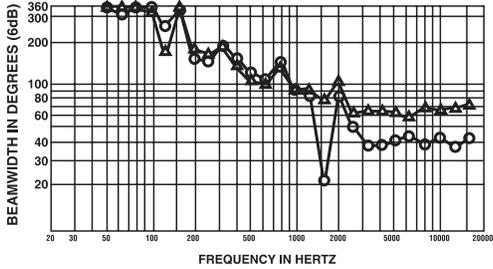

FIGURE 5 — PIM-152 Directivity Factor and Directivity Index vs. Frequency (one-third-octave bands of pink noise)
Directivity Factor R_0 (Q), 500- to 16,000-Hz Median (see Figure 5):
Directivity Index D_1 , 500- to 16,000-Hz Median (see Figure 5):